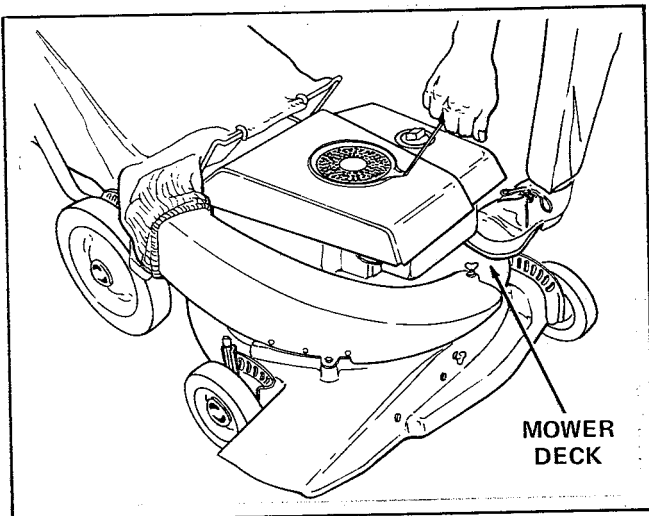

Figure 9. Manual Starting
- On Manual Start Mowers, place your foot on mower deck (see figure 9). Keep your other foot well away from the mower. Grasp the starter handle firmly and pull upward. Return the handle slowly to the cover by hand.